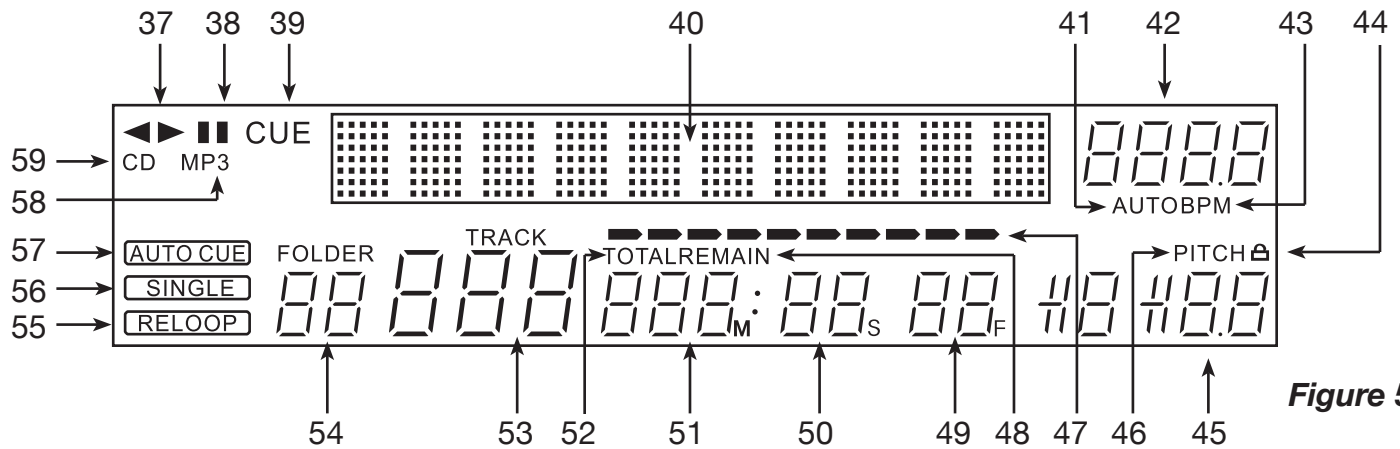

Figure 5
D. VFD DISPLAY PANEL (FIGURE 5)
45. PITCH METER - This meter will display the pitch percentage applied by the *PITCH SLIDER* (3).